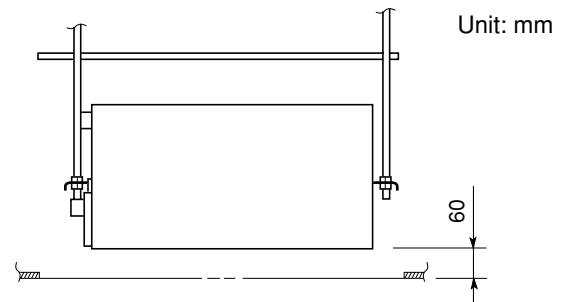

Fig. 3-23
- (3) The distance between the unit and the opening in the ceiling and the distance between the bottom surface of the ceiling and the bottom surface of the flange of the unit should follow the dimensions given in Figs. 3-23. Use the supplied installation gauge to check.